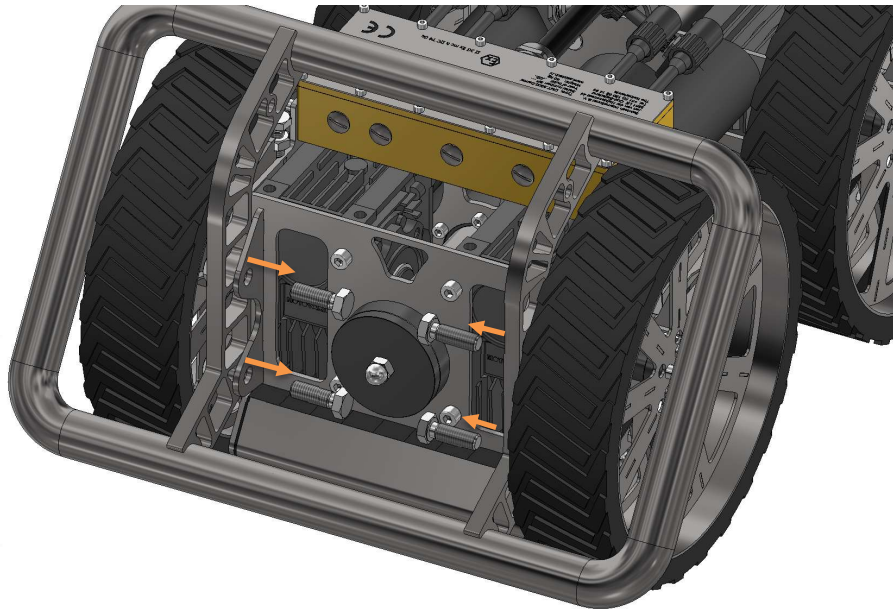

Figure 25 Detaching the guard bracket
1. Detach the front guard bracket by undoing the 4 hexagon bolts, as shown in Figure 25.